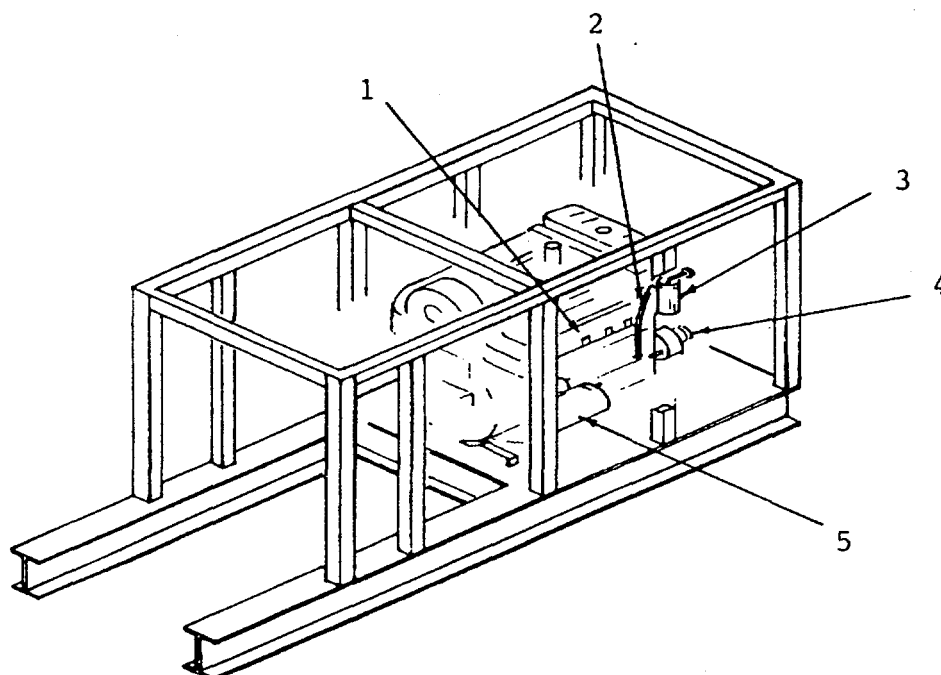

Figure 1-1. Starboard Side View.
- a. Propelling Unit (Starboard Side). (Figure 1-1)..